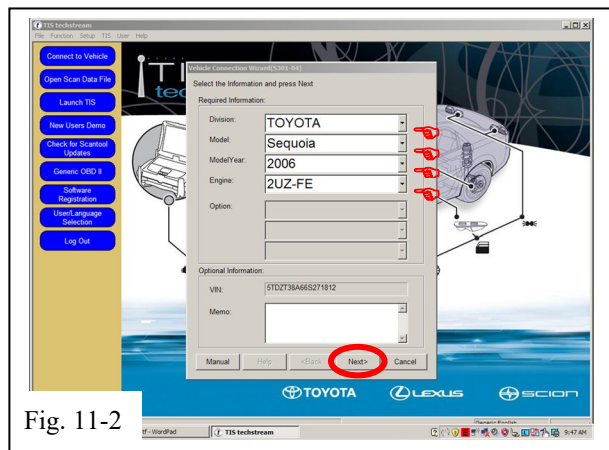

Fig. 11-2
- (e) Confirm that the information displayed on the Vehicle Connection Wizard is correct. If not, make the appropriate selections from the Drop-Down Menus, then click “Next” (Fig. 11-2).